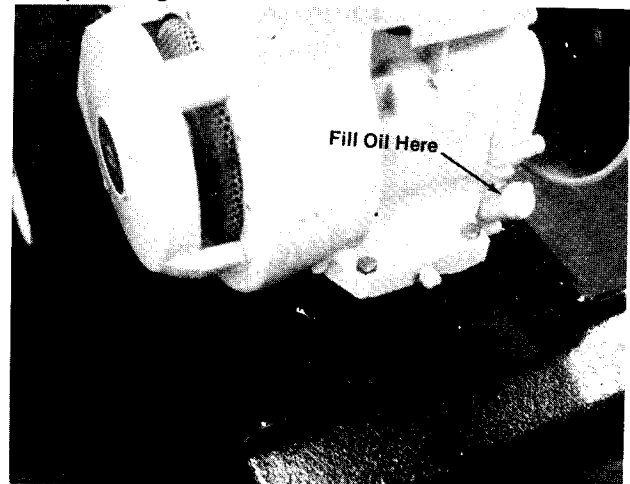

FIGURE 15.
1. Before starting. Fill crankcase with 2 3/4 pints of SAE 30 heavy duty detergent oil. Be sure that engine is level. See figure 15.